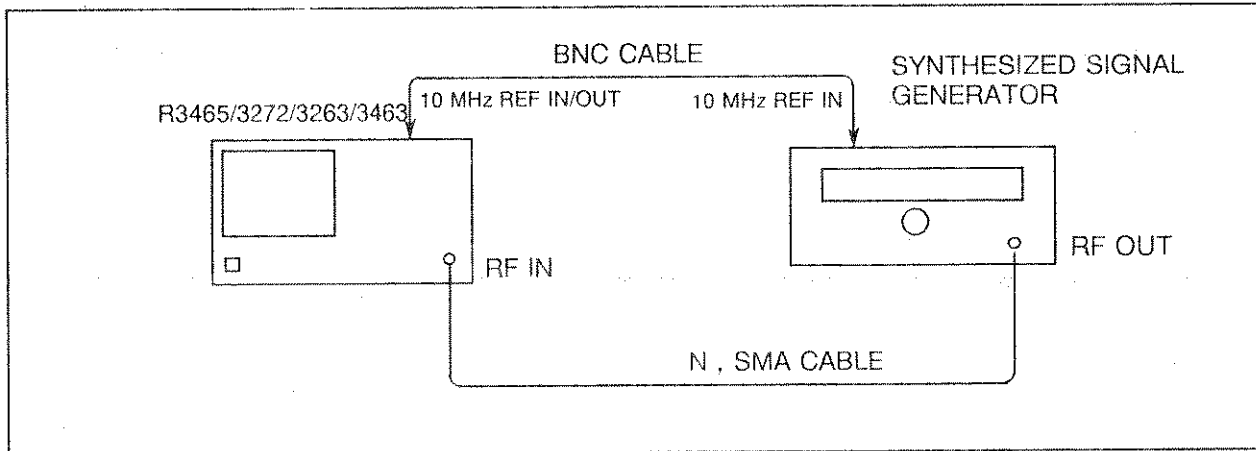

Figure 1-3 Noise Sidebands Test Setup
(1) Connect the equipment as shown in Figure 1-3.
(2) Set the Signal Generator (SG2) controls as follows: